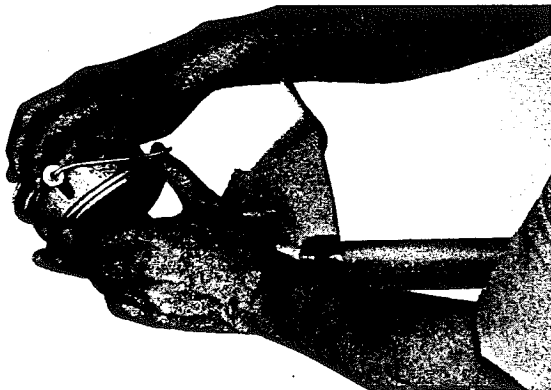

Figure 25
- There are two eyelets, one on each side. After the nylon cord has been threaded through eyelets with thick side facing shaft holt, (may not be applicable on all heads), inset eyelets in side slots of housing while inserting interspool. Thus snapping together both interspool and eyelets in housing with one motion. Clip ends of nylon to equal lengths. Thread knob back on shaft and retighten. See figure 25.